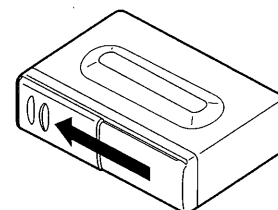

Fig. 39
- Never leave the door open while playing discs. The entry of dirt, dust, or any other foreign matter into the player may cause it to fail. (Fig. 39)